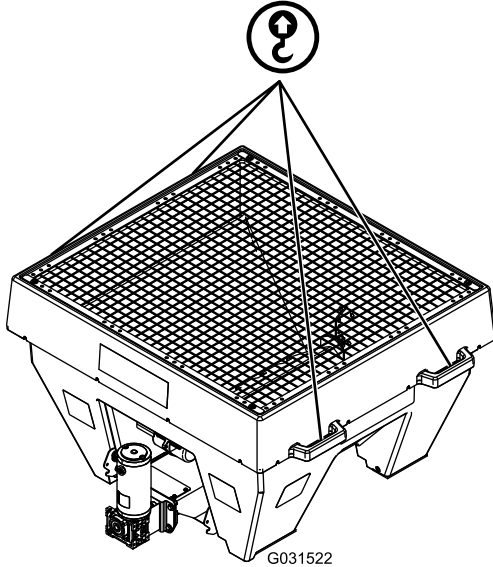

Figure 4
2. Using the lift points (Figure 4), lift the spreader onto the utility vehicle bed and set it on the centerline.